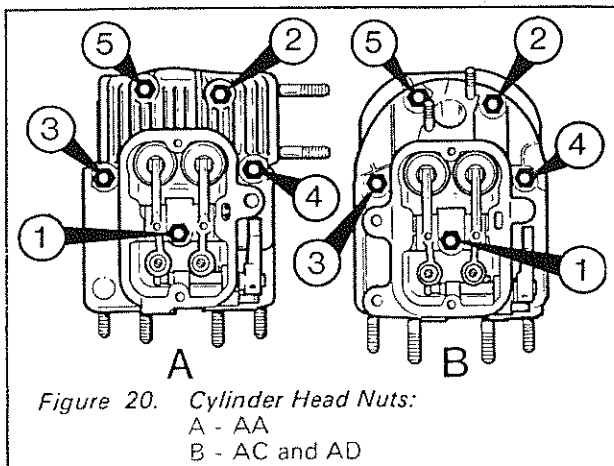

Figure 20. Cylinder Head Nuts:
7. Gradually slacken the cylinder head retaining nuts in the sequence shown in Figure 20.
6. Replace and gradually tighten the cylinder head retaining nuts, in the sequence shown in Figure 20, until they are finger tight. While tightening the nut holding the rocker support ensure that the support is correctly located over the locating pin in the cylinder head.
7. Tighten each nut a quarter of a turn at a time, in the correct sequence as shown in Figure 20, to a torque loading of 27.0Nm (20.0lbf ft).
5. Replace the cylinder head and torque the bolts to 27.0Nm (20.0lbf ft) following the sequence given in Figure 20 on page 20..